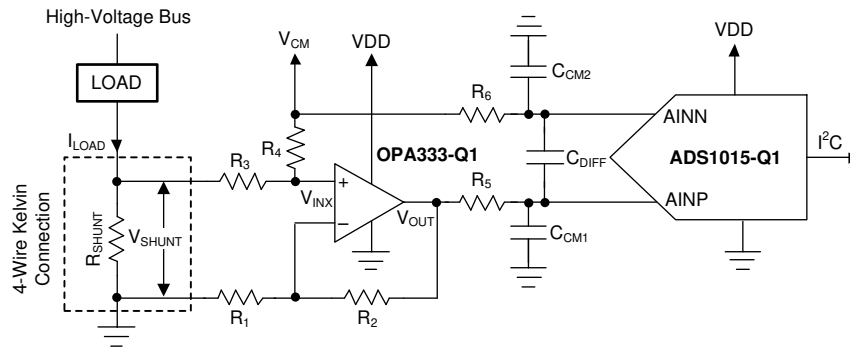

Figure 8-6. Low-Side Current Shunt Monitoring
Shunt-based, current-measurement solutions are widely used to monitor load currents. Low-side, current-shunt measurements are independent of the bus voltage because the shunt common-mode voltage is near ground. Figure 8-6 shows an example circuit for a bidirectional, low-side, current-shunt measurement system. The load current is determined by measuring the voltage across the shunt resistor that is amplified and level-shifted by a low-drift operational amplifier, OPA333-Q1. The OPA333-Q1 output voltage is digitized with ADS1015-Q1 and sent to the microcontroller using the I²C interface. This circuit is capable of measuring bidirectional currents flowing through the shunt resistor with great accuracy and precision.
1. To level-shift the ground-referenced signal to allow bidirectional current measurements while running off a unipolar supply. The voltage across the shunt resistor, V_{SHUNT}, is level-shifted by a common-mode voltage, V_{CM}, as shown in Figure 8-6. The level-shifted voltage, V_{INX}, at the noninverting input is given by Equation 3.
A shunt resistor (R_{SHUNT}) is an accurate resistance inserted in series with the load as described in Figure 8-6. If the absolute voltage drop across the shunt, $|V_{SHUNT}|$, is a larger percentage of the bus voltage, the voltage drop can reduce the overall efficiency and system performance. If $|V_{SHUNT}|$ is too low, measuring the small voltage drop requires careful design attention and proper selection of the ADC, operation amplifier, and precision resistors. Make sure that the absolute voltage at the shunt terminals does not result in violation of the input common-mode voltage range requirements of the operational amplifier. The power dissipation on the shunt resistor increases the temperature because of the current flowing through the resistor. To minimize the measurement errors resulting from variation in temperature, select a low-drift shunt resistor. To minimize the measurement gain error, select a shunt resistor with a low tolerance value. To remove the errors caused by stray ground resistance, use a four-wire Kelvin-connected shunt resistor; see Figure 8-6.